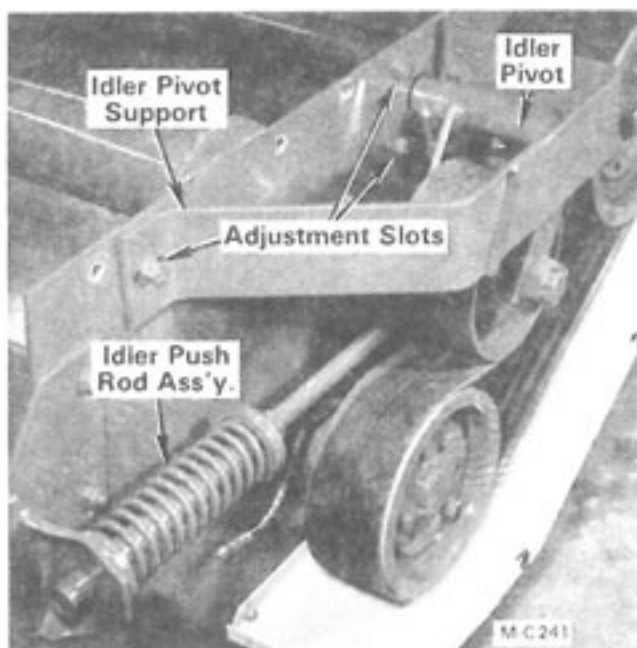

Figure 32
4. The idler pivot support is adjustable horizontally and the idler pivot is adjustable vertically, see Figure 32.